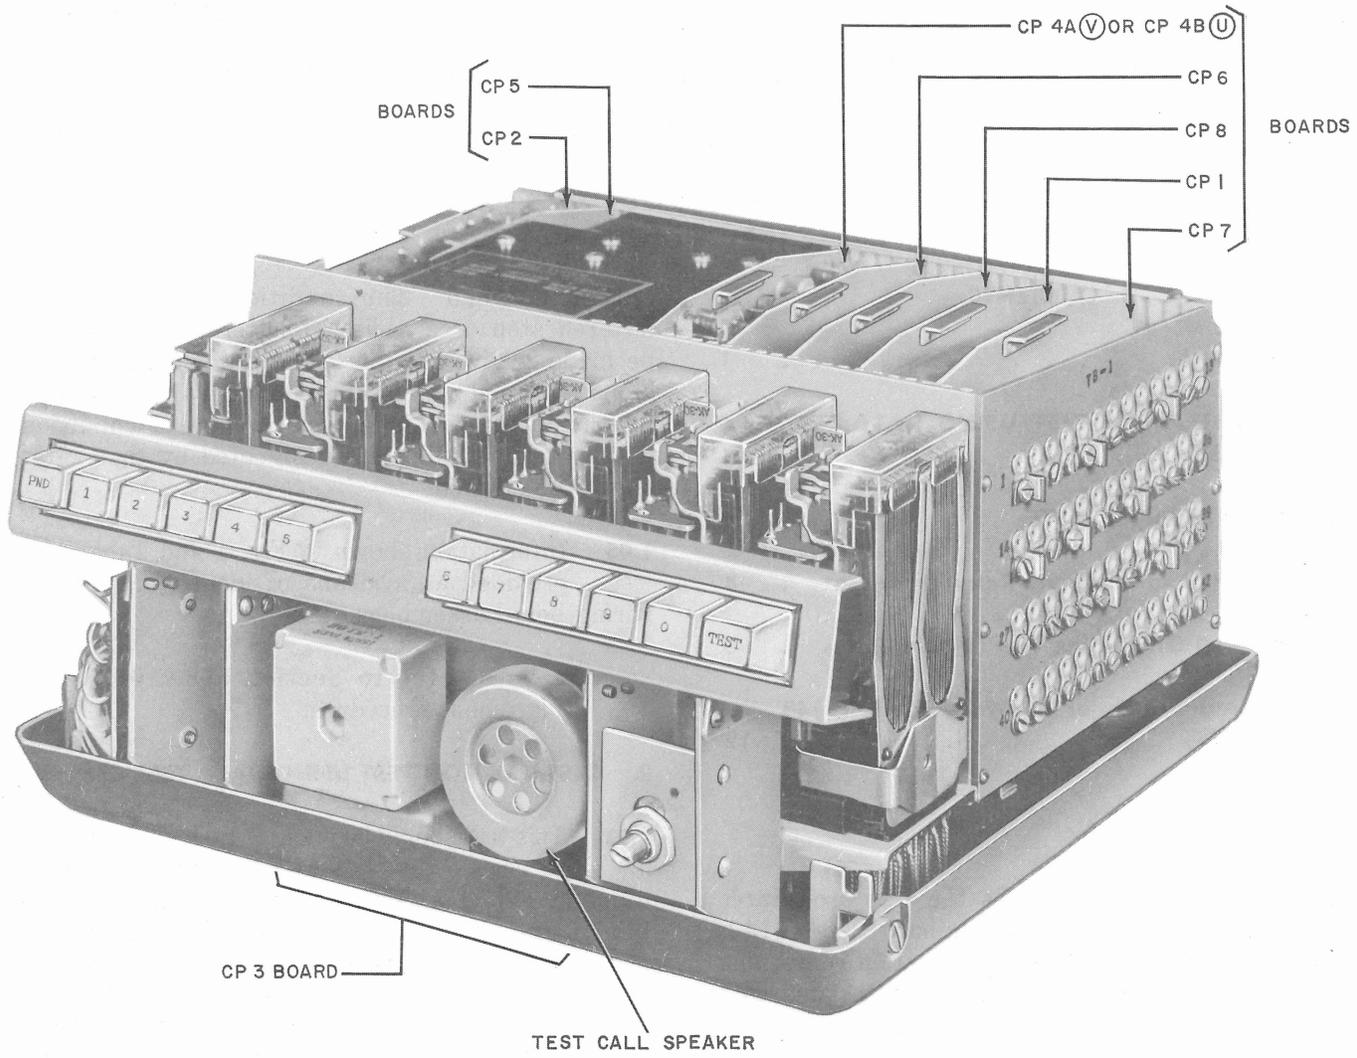

Fig. 1—Data Auxiliary Set 801A-Type—Front View With Cover Removed
1.05 Information shown in Fig. 1 and Table A is provided as a means of identifying printed wiring board assemblies.